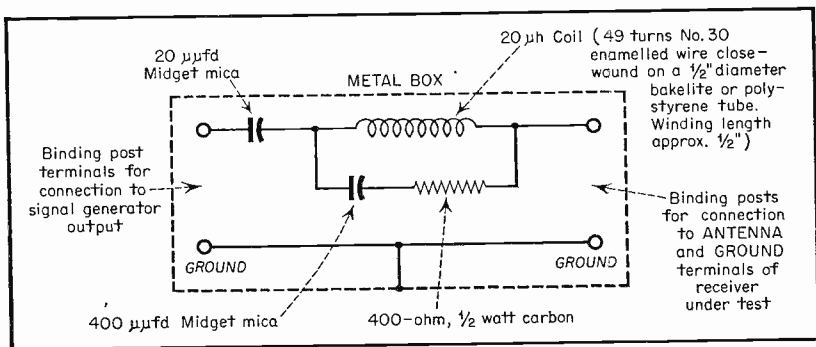
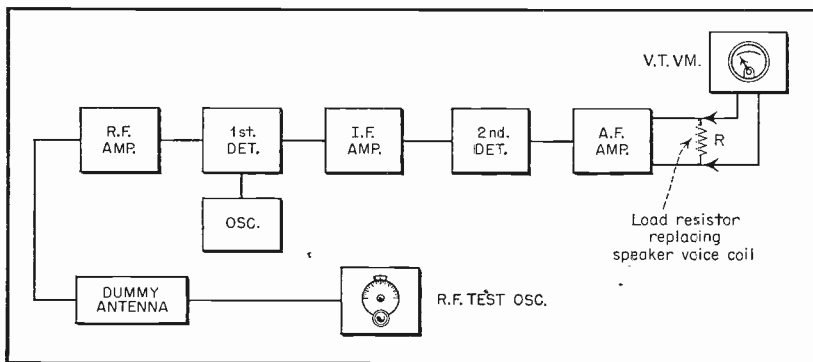

Fig. 1.
Fig. 7.
The instruments required for taking complete receiver performance data may be found in any well-equipped service shop. They are (1) r. f. test oscillator or signal generator, (2) variable-frequency audio test oscillator, and (3) a. c. vacuum-tube voltmeter. In addition to these instruments, a dummy antenna (see Figure 1) must be constructed by the reader. Also, a power-type load resistor will be needed for connection in place of the loudspeaker voice coil. Following is a discussion of the required characteristics of the instruments.
Dummy Antenna. A circuit diagram of the standard dummy antenna is given in Figure 1. The parts may be mounted on a sheet of insulating material, such as bakelite or polystyrene, and enclosed in a small metal box or can. Coaxial jacks and plugs may be
designed for connection to an external antenna, the dummy antenna (Figure 1) must be connected between the test oscillator and the input terminals of the receiver (see Figures 7 and 8). When the receiver is equipped with an
7. Selectivity. Use the arrangement shown in Figure 7. Tune the receiver to a **modulated** signal from the test oscillator, and advance the oscillator output until full rated output watts are read across load resistor R (see Test 2). Detune the oscillator below the receiver dial setting until a point is reached at which the voltmeter deflection falls to zero. Read the fre-
8. **Sensitivity.** Use the same arrangement, with a modulated signal, shown in Figure 7. Set the test oscillator signal to give full rated output watts, as read with the v. t. voltmeter (see Test 2), and at this point read the sensitivity directly in microvolts from the attenuator of the test oscillator.